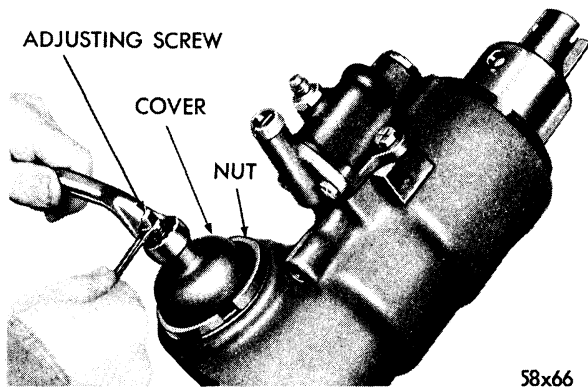

Fig. 36—Adjusting Gear Shaft Adjusting Screw
d. With gear shaft on center plus or minus 2 degrees, readjust the gear shaft backlash. This will require loosening the adjusting screw until backlash is evident. Then retighten adjusting screw until backlash just disappears. Continue to tighten for  $\frac{3}{8}$  to  $\frac{1}{2}$  turn from this position and tighten lock nut to 50 foot-pounds torque to maintain this setting, (Fig. 36).